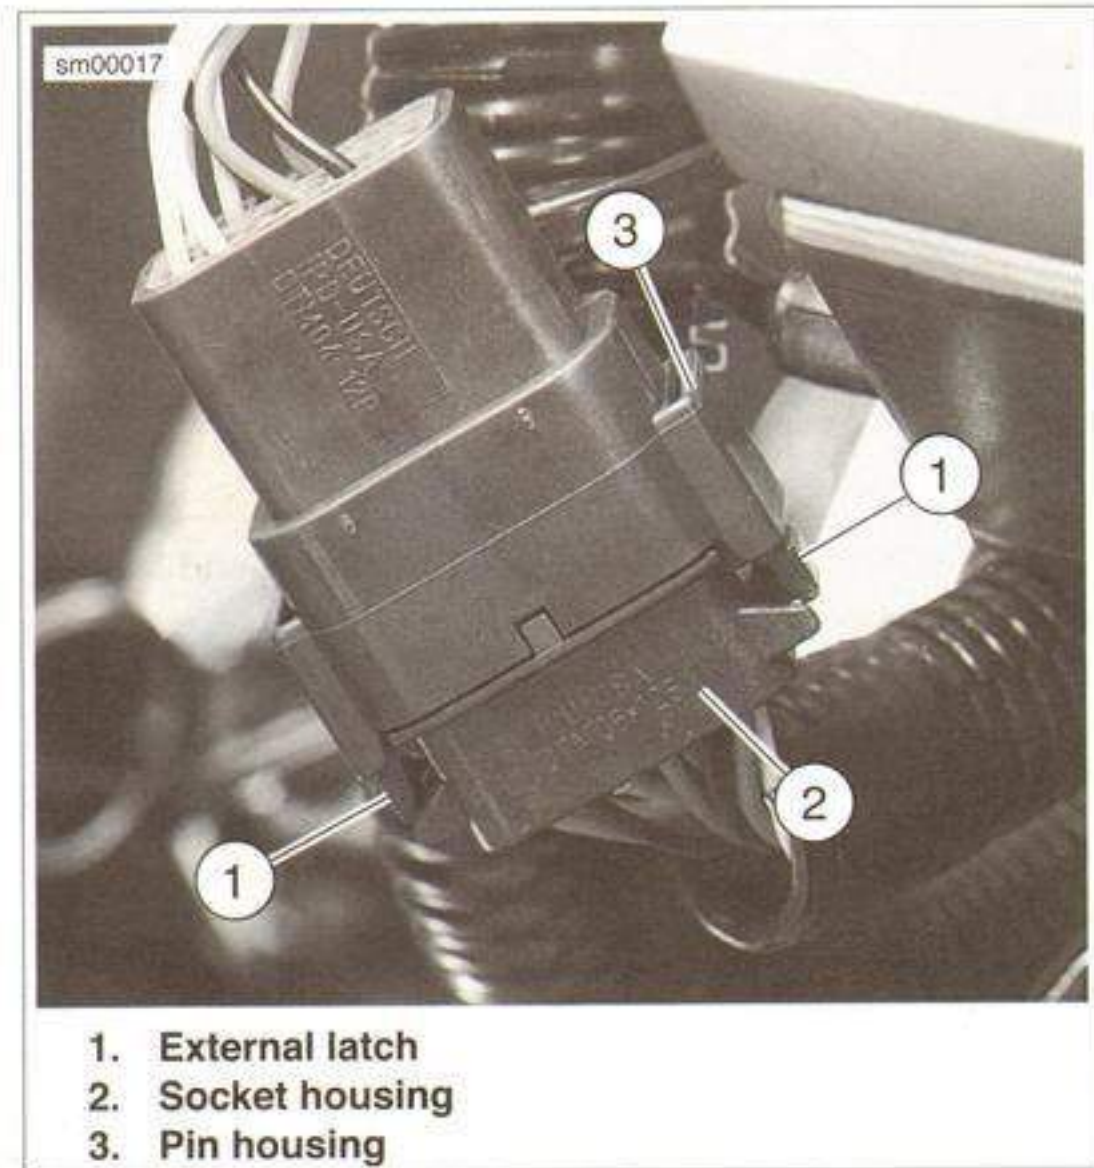

Figure A-15. Deutsch Connector
See Figure A-15. To separate the connector halves, depress the external latch(es) (1) on the socket housing (2) while rocking the pin (3) and socket housings.